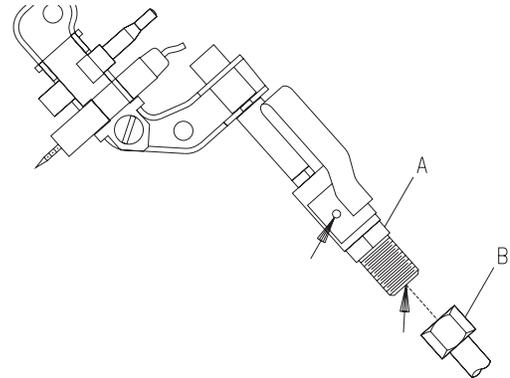

Figure 10
Oxygen Depletion Sensor Pilot (Figure 10)
5. Disconnect pilot tubing from pilot (see Figure 10, Sect 1:17). Grasp nut A with a wrench when removing nut B with a second wrench.